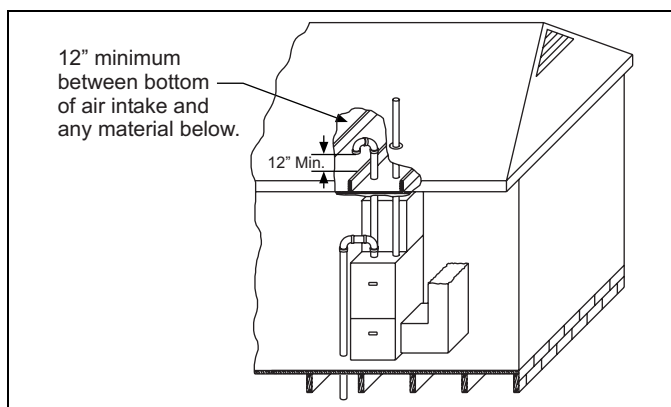

FIGURE 37: Attic and Crawl Space Combustion Air Termination
3. **VENTILATED COMBUSTION AIR:** Combustion air is supplied through a PVC or ABS pipe that is connected to the PVC coupling attached to the burner box and is terminated in a ventilated attic or crawl space. The combustion air and the vent pipes are not terminated in the same atmospheric zone. Refer to Figure 37 for attic and crawl space termination. Only the combustion air intake may terminate in the attic. The vent must terminate outside.
Refer to Figure 37, "Attic and Crawl Space Combustion Air Termination" for required attic termination for the combustion air intake pipe. For attic termination, use two 90 elbows with the open end in a downward position. Be sure to maintain 12" (30 cm) clearance above any insulation, flooring or other material.